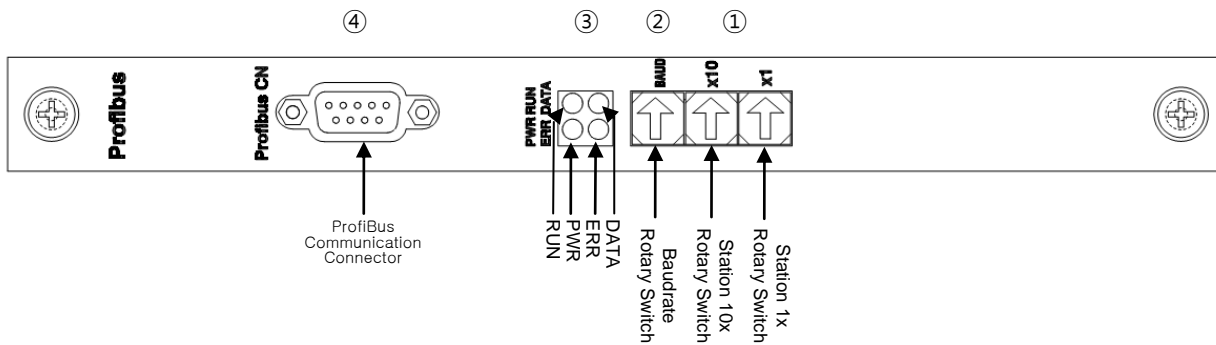

Fig. 3.1 Block Diagram of Profibus Option Card
Fig. 3.1 shows the front view of Profibus Option Card.
Use the Station 10x Rotary Switch and Station 1x Rotary Switch in Fig. 3.1 ① and change into Station Number set in Master for communication with Profibus-DP Master. Rotary Switch makes use of a decimal number so you can set a tenth place with 10x Rotary Switch and the first place with 1x Rotary Switch.
Communication speed with Profibus Master is set by use of Baud rate Rotary Switch in Fig.3.1 ②. Rotary Switch uses a decimal number and communication speed for each number is shown in Table 3.3.
- 2) Set a mode using the Rotary Switch in Fig. 3.1 ①.
- 3) Use the Rotary Switch in Fig.3.1 ② to set input/output Data Sizes.